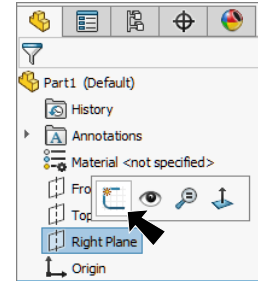

Fig. 1
- Step 2. Click **Right Plane**  in the Feature Manager and click **Sketch**  on the context toolbar, **Fig. 1**.